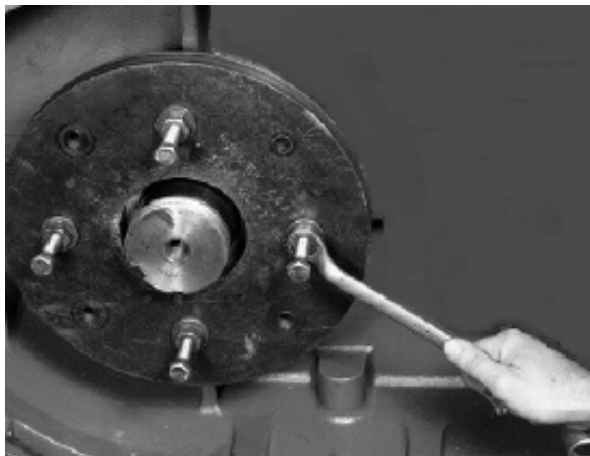

FIGURE 7- 26 – PRESS PLATE & JACK SCREW ASSEMBLY
26. Install the roller assembly of the bearing in the bore of the carrier (5) with the numbered side out. The roller assembly is slip fit in the bore. Coat the inner race of the bearing and shaft with oil. **Slide the inner race of the bearing on the shaft with the flange end out.** Assemble the press plate and jack screws as shown and press the inner race over the shaft solidly against the shims and bearing spacer, (FIGURE 7- 26, page 50).